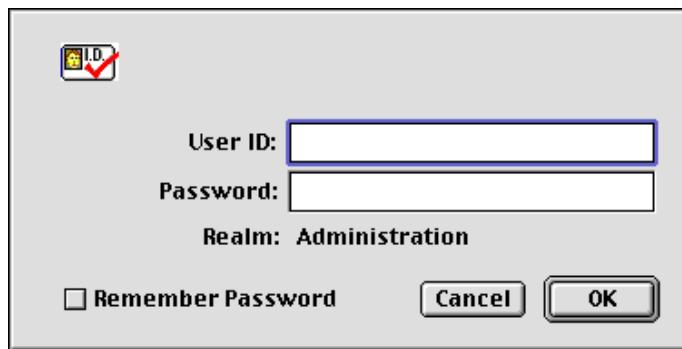

Figure 1. T-DAC login window
To log into the HTTP/HTML Web Management windows, you must enter the 4-octet Internet Protocol (IP) address (for example, *http://your.server.ip.address*) as the Universal Resource Locator (URL) into a World-Wide Web (WWW) browser. After you enter the IP address, the T-DAC will ask for your user name and password as shown in figure 1.